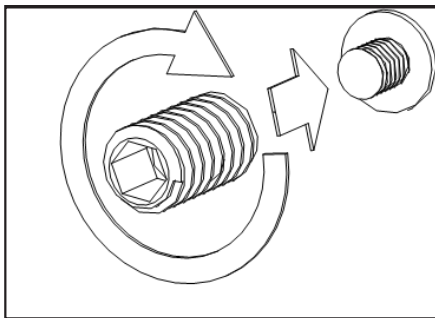

Fig. 5
- 1) Twist on supplied threaded caps (x2) on to existing screws on the fridge door. To ensure no gap between the handle and the door, make sure that they meet the washer. (Fig. 5)